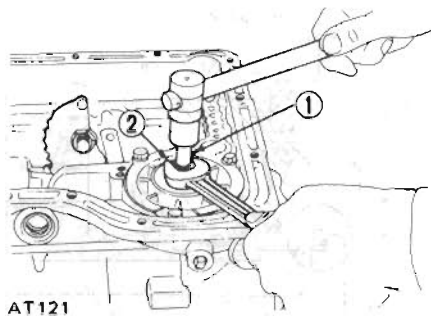

Fig. AT-55 Loosening band servo
6. Loosen lock nut ② on piston stem ① as shown in Figure AT-55. Then tighten piston stem in order to prevent front clutch drum from falling when oil pump is withdrawn.